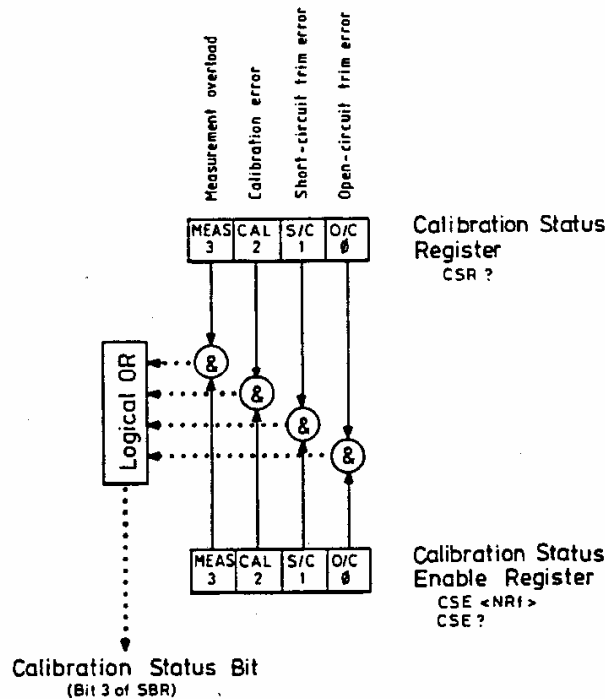

Fig 9.3 Calibration Status Register
9.4.5 The Calibration Status Register (CSR) is shown in Fig 9.3.
9.4.6 The Calibration Status Enable Register (CSE) is a mask determining the conditions in which the CSR will set Bit 3 of the SBR. It is ANDed bitwise with the CSR and, if the result is not zero, the CAL bit (Bit 3) of the SBR is set (see Fig 9.3). Thus Calibrate and Measurement errors can be made to generate a Service Request in conjunction with the CSE and the SRE.